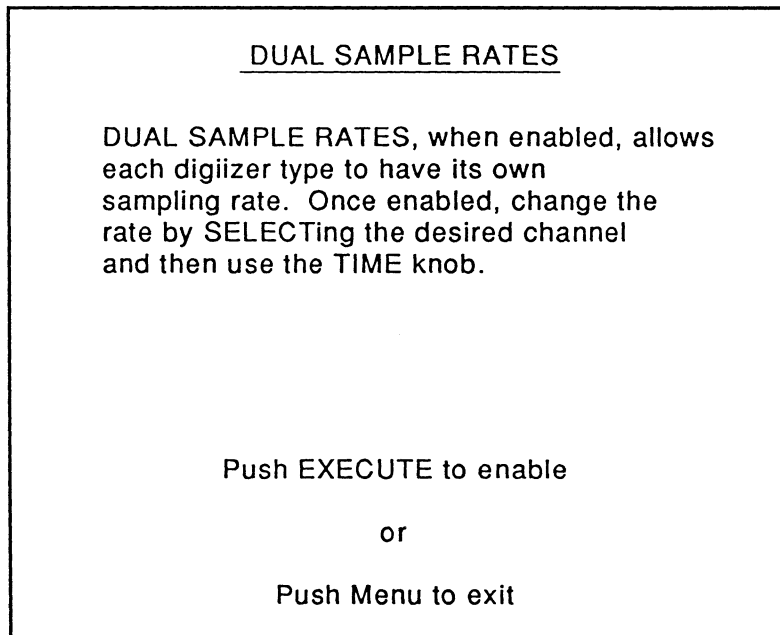

Figure 2 - Dual Sample Rates execution screen
3. Press the Execute button. The Dual Sample Rates execution screen appears (Figure 2).